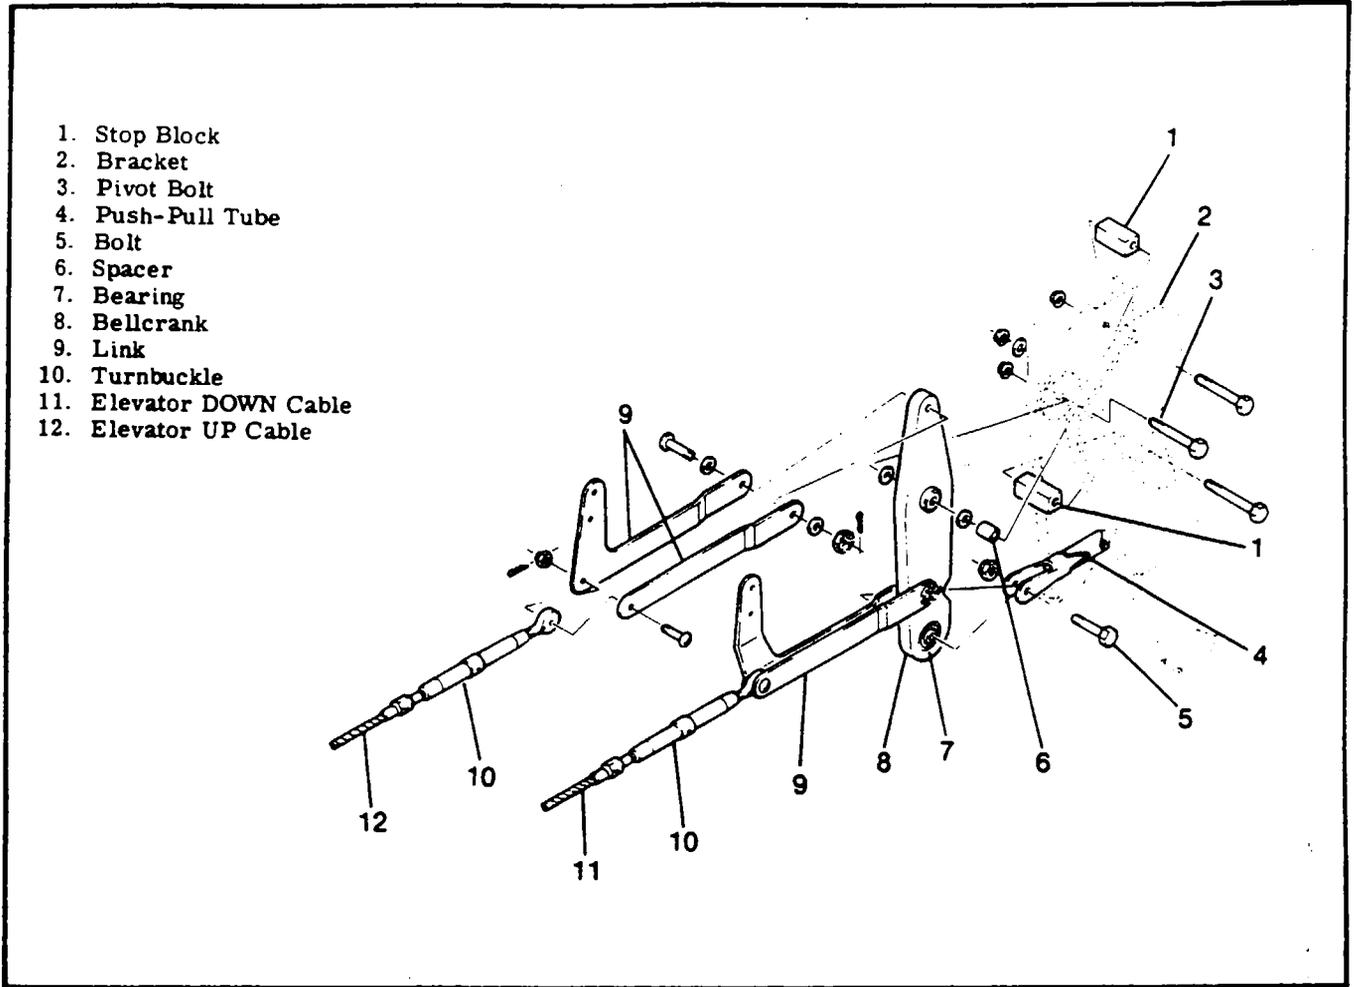

Figure 8-3. Elevator Bellcrank Installation
8-8. BELLCRANK. (Refer to figure 8-3.)
- b. Remove safety wire and relieve cable tension at turnbuckles (9).
- c. Disconnect cables at control column arm assemblies (3).
- d. Disconnect cables at bellcrank links (index 16, figure 8-3).
8-14. RIGGING. (Refer to figure 8-3.)